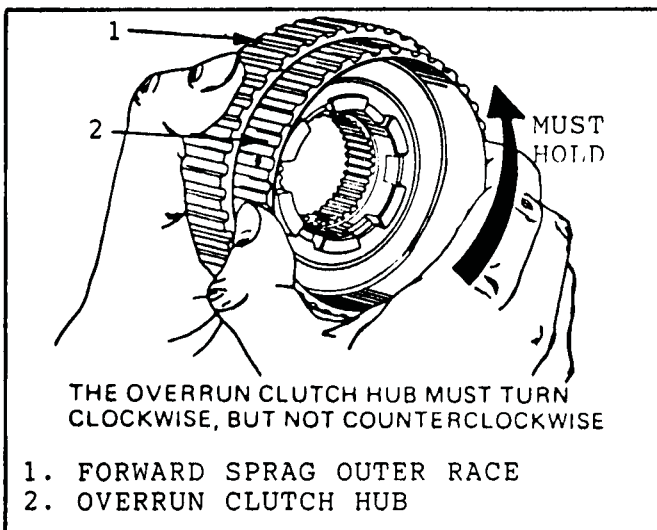

Figure 99
7. Test the forward sprag assembly for proper operation as shown in Figure 99.